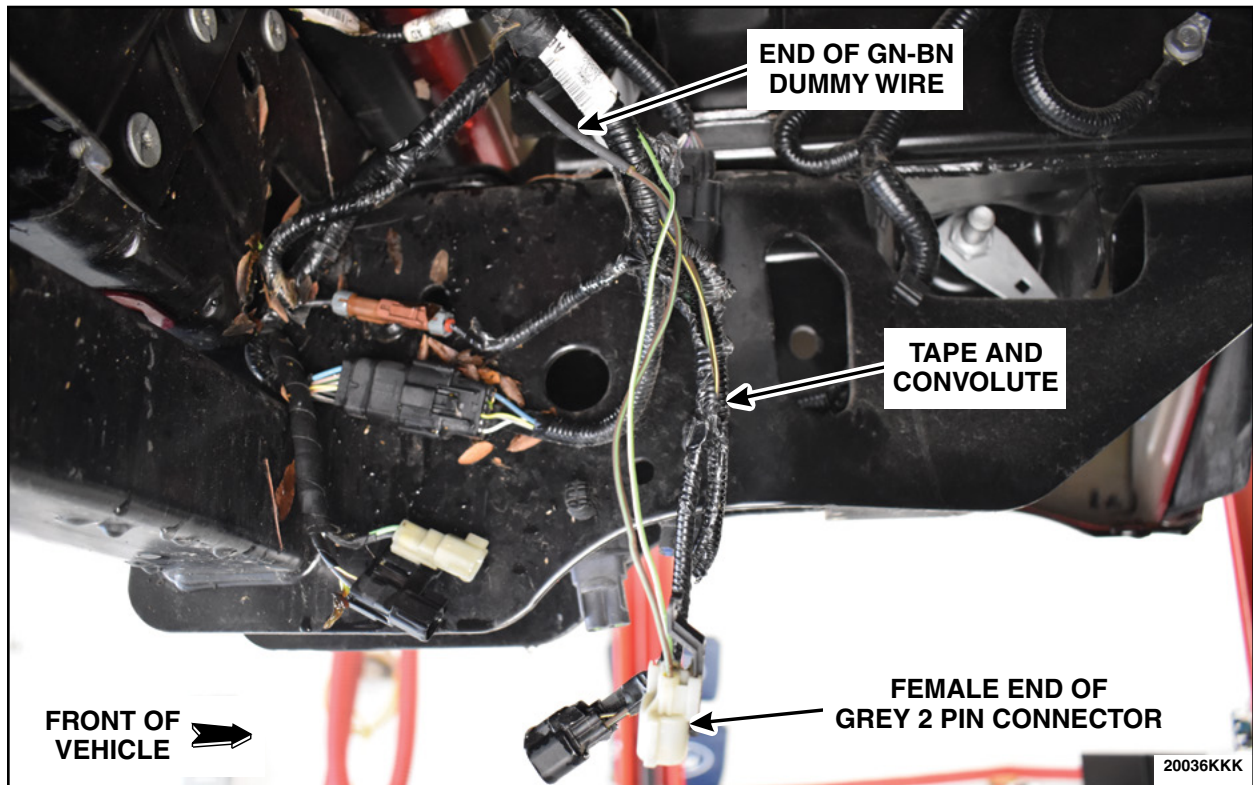

FIGURE 66
90. Remove the tape and convolute of the female side of the Grey 2 pin connector to expose the end of the Green-Brown (GN-BN) dummy wire. See Figure 66.